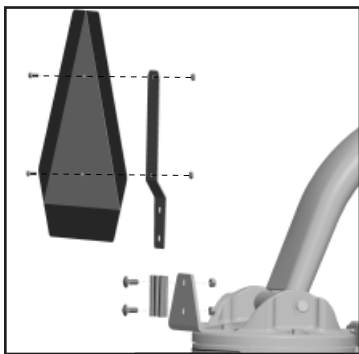

FIG. 5
STEP 8: Install the SMV kit (PN 20069) (see FIG. 5).